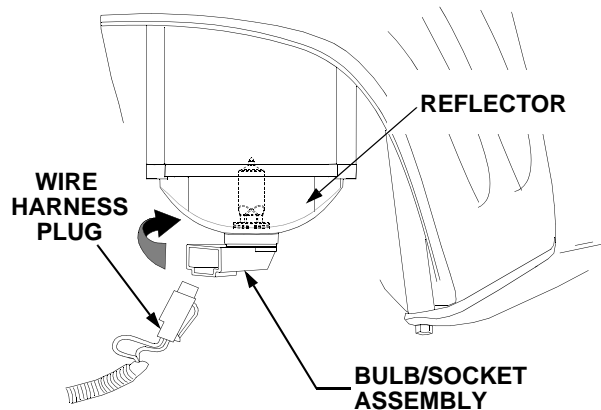

Figure 35
- Pull the wire harness plug from the bulb/socket assembly to unplug the wire harness. See Figure 35.